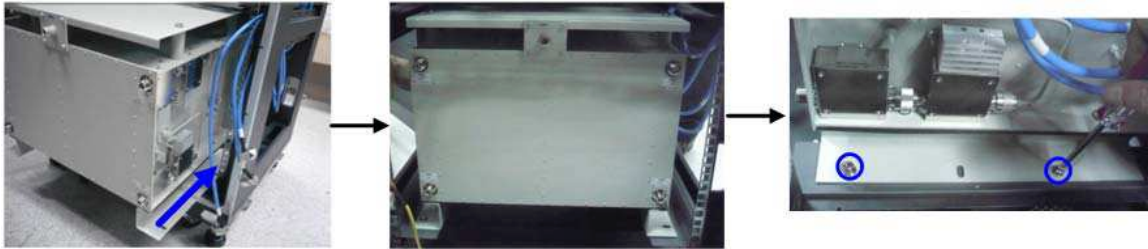

Figure 3-15 Installing the Combiner Unit
Step 6 Install the COM as shown in Figure 3-15.